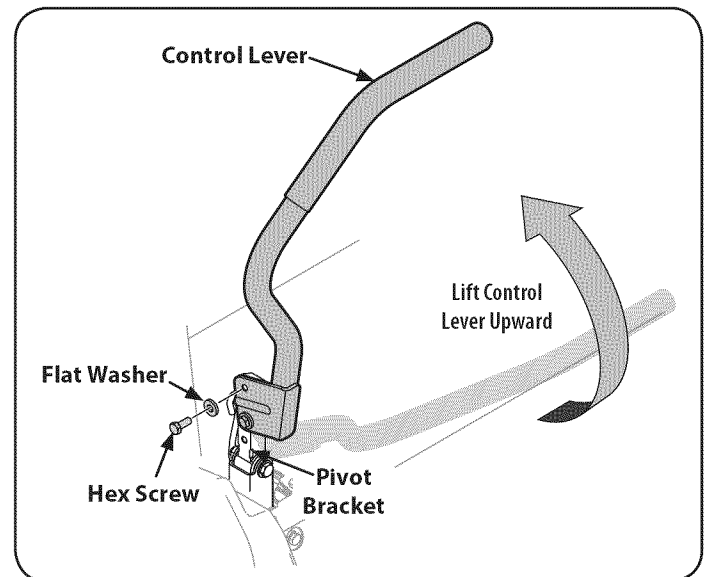

Figure 2
2. Lift and swing that control lever upward until the slotted hole in the lever bracket aligns with one of the holes in the pivot bracket. See Figure 2.
3. Slide the flat washer onto the hex screw. From the outside, insert the hex screw with washer through the control lever slot and the hole of the pivot bracket. See Figure 2. Using a 1/2" wrench snug the screw, but do not fully tighten.